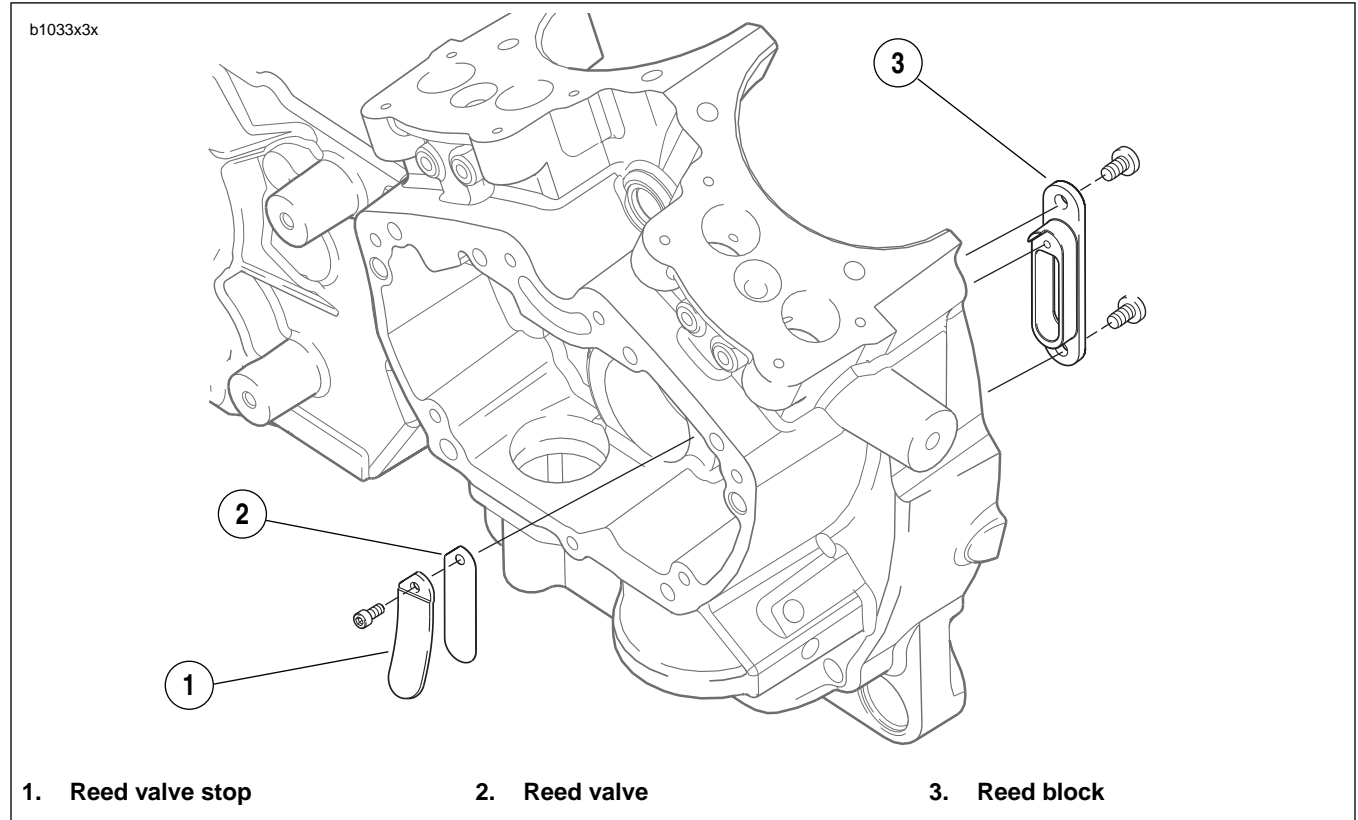

Figure 3-116. Reed Valve Assembly
See *Figure 3-116*. It is not necessary to replace the reed block (4) along with the reed valve. The block can only be replaced after separating the crankcase halves.